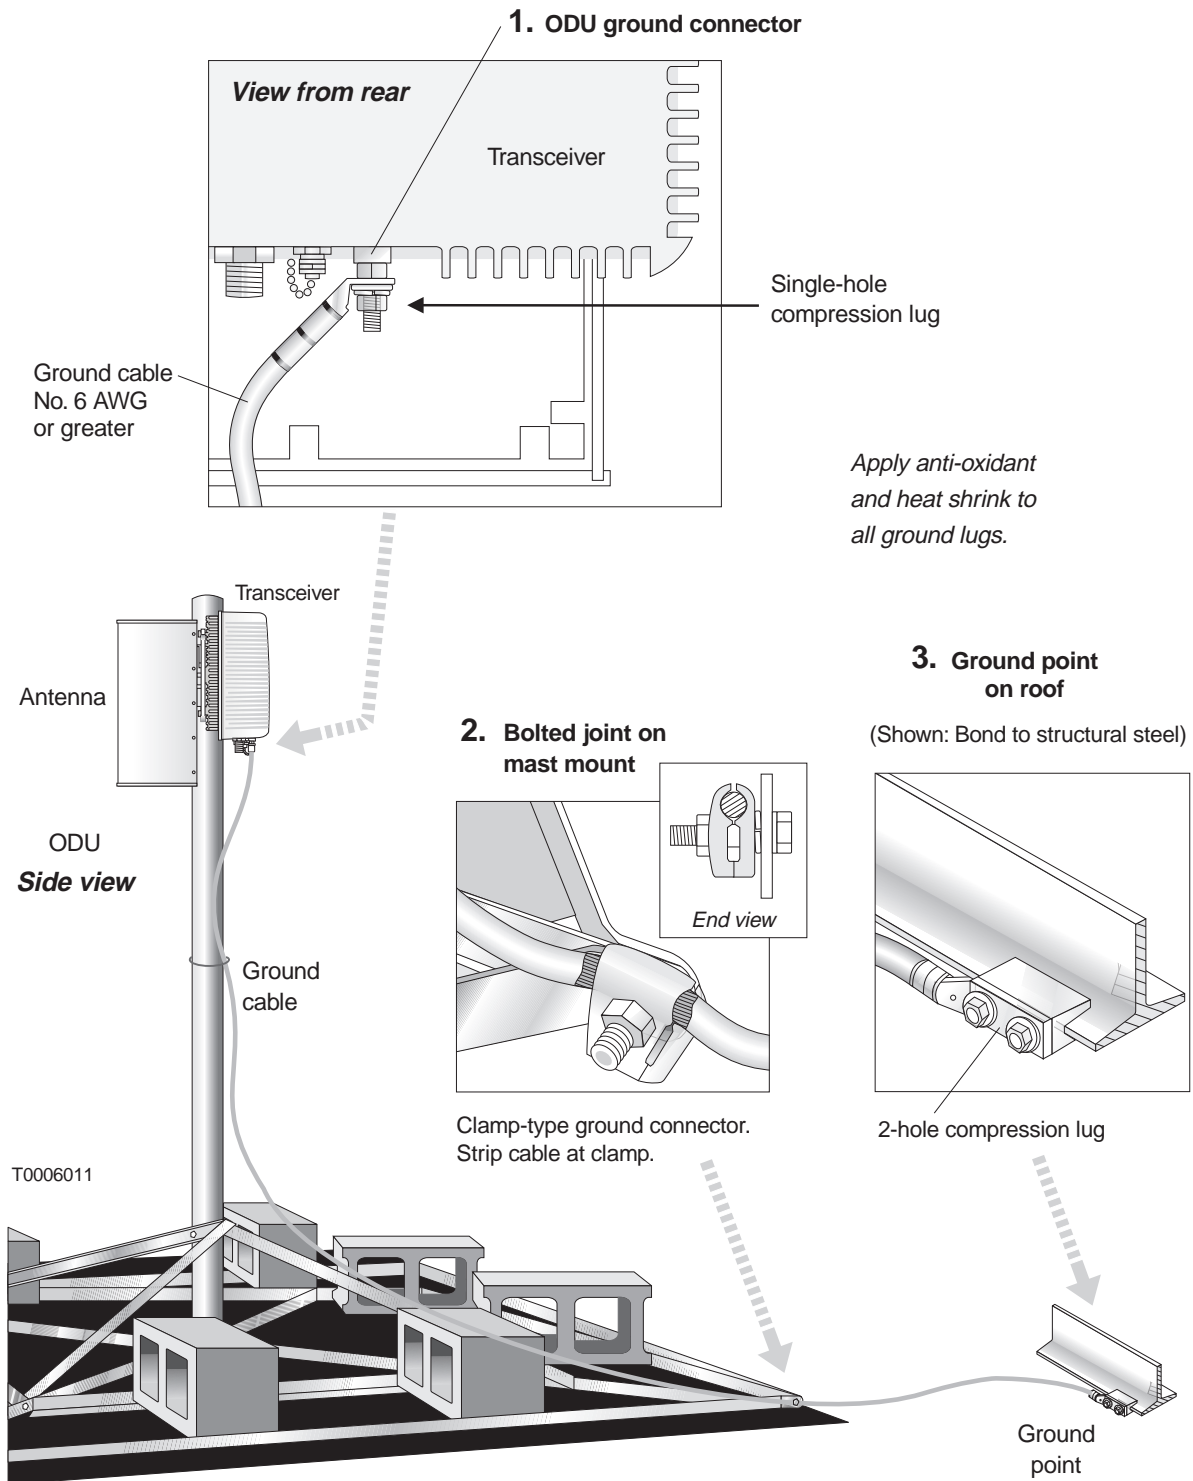

Figure 4-25 ODU grounding connections
Grounding the ODU requires several connections, as shown in figure 4-25. In making the ground connections, *follow these practices*:
1. Connect one end of the ground cable (No. 6 AWG or greater, green) to the ODU ground connector, which is shown in figure 4-25.
Important: For this connection, strip the cable but **do not cut it**. See figure 4-25. The cable continues from the bolted joint to the ground point.
4. Apply anti-oxidant (HNS 9008224-0002) to each ground lug (points 1, 2, and 3 in figure 4-25).